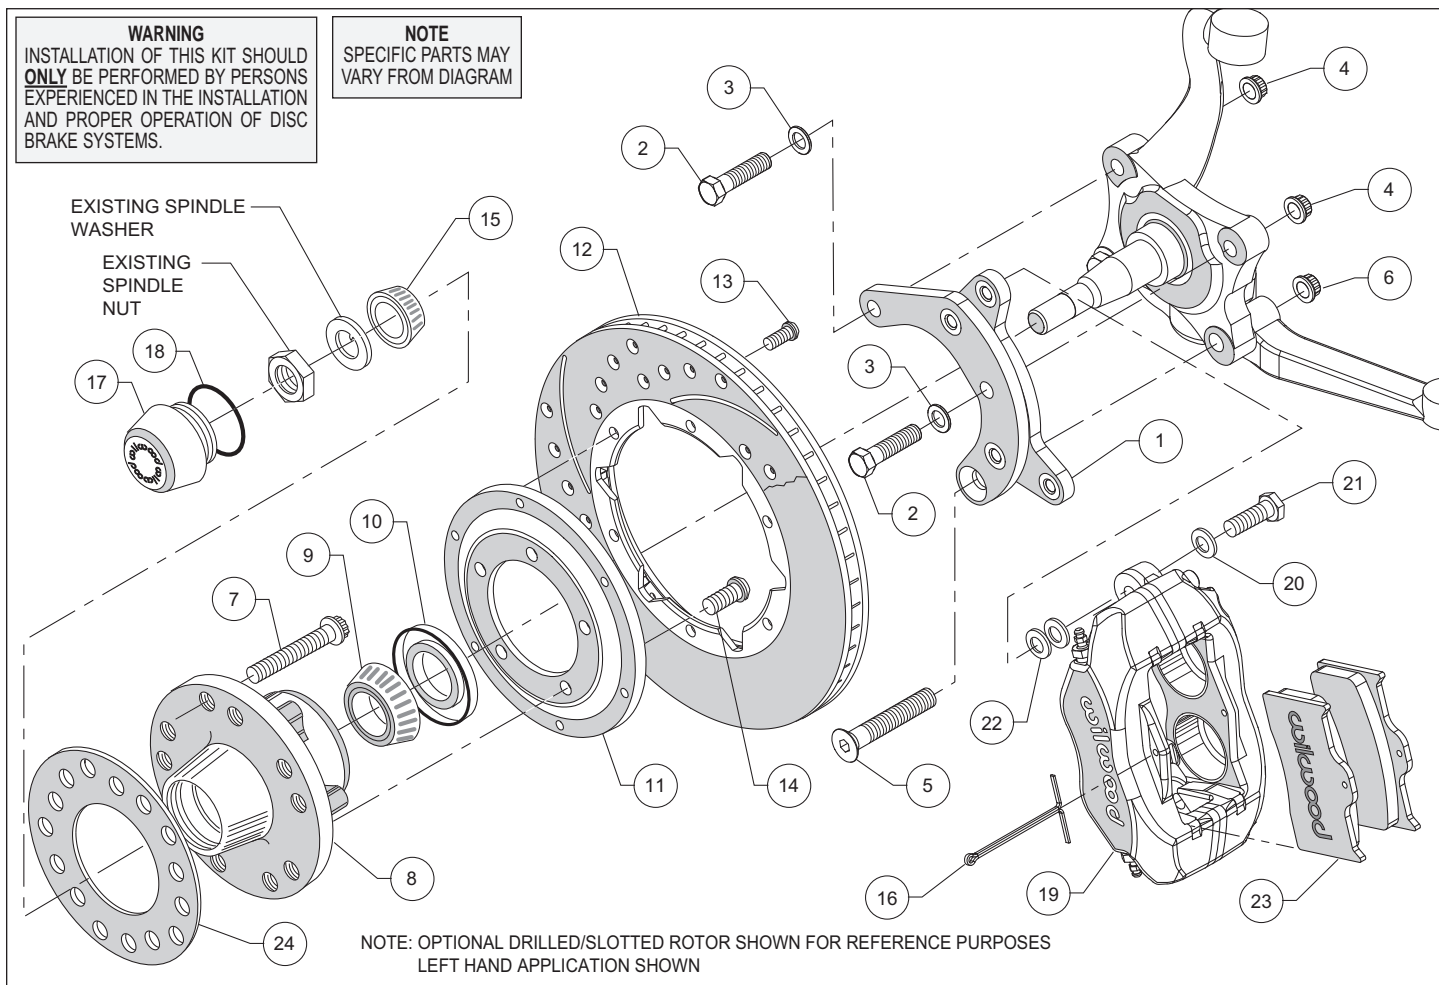
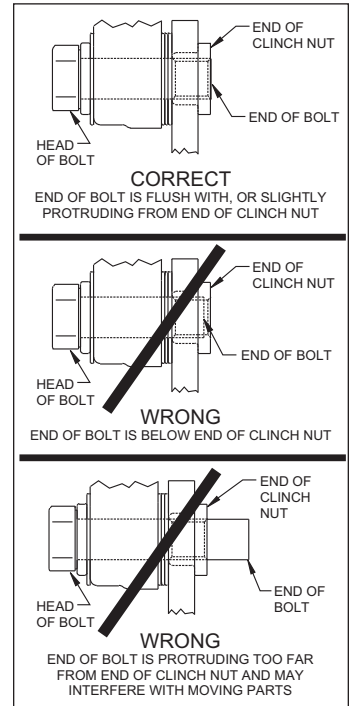

Figure 1. Typical Installation Configuration
Figure 4. Clinch Nut Engagement Diagram
Assembly Instructions (numbers in parenthesis refer to the parts list, on the preceding page and Figure 1): **CAUTION:** All mounting bolts must fully engage clinch nuts. Be sure to check that all bolts are either flush or protruding through flanged side of clinch nut after shimming, Figure 4.
- Align bracket with the corresponding holes on the face of the spindle, attach using bolts (2/5), washer (3), and secure using nuts (4/6) as shown in Figure 1 and Photo 1. Temporarily tighten the mounting bolts. Ensure that the flanged heads of the clinch nuts in the bracket are facing outboard, Photo 1. **NOTE:** The bracket must fit squarely against the mounting points on the spindle. Inspect for interference from casting irregularities, machining ridges, burrs, etc. Torque lock nut (4) to 47 ft-lbs and lock nut (6) to 65 ft-lbs.
- Install the grease seal (10) by pressing into the backside of the hub (8), flush with the end of the hub, Photo 3.
- Orient the rotor (12) and the rotor adapter (11) as shown in Figure 1 and Photo 4. Attach the rotor to the adapter using bolts (13). Using an alternating sequence, apply red *Loctite*® 271 to the threads, and torque to 25 ft-lb.
- Mount the adapter/rotor assembly (11/12) to the hub (8) using bolts (14), as shown in Figure 1 and Photo 5. Using an alternating sequence, apply red *Loctite*® 271 to the threads, and torque to 55 ft-lb.
- Pack the small outer bearing cone (15) with high temperature disc brake bearing grease and install into hub (8). Slide the hub/rotor assembly onto the spindle. Secure using OEM spindle washer and OEM spindle nut, Photo 6. Adjust bearings per OEM specifications. Install saved OEM nut lock (if any) and a new cotter pin (not supplied).
- Screw dust cap (17) into hub (8), Photo 7. Friction created by the o-ring (18) on the dust cap keeps it from unscrewing. **NOTE:** The O.D. of the existing OEM spindle washer may be larger than the I.D. of the dust cap not allowing it to seat against the hub face. Therefore, use the spindle washer (16) supplied with the kit instead of the OEM washer.
- NOTE:** Please reference the caution statement at the beginning of the assembly instructions. Mount the caliper (19) onto the caliper mounting bracket (1) using bolts (21) and washers (20), as shown in Figure 1. Initially place two .035" thick shims (22) on each bolt between the caliper and the bracket, Photo 8. Temporarily tighten the mounting bolts and view the rotor (12) through the top opening of the caliper. The rotor should be centered in the caliper, Photo 9. If not, adjust by adding or subtracting shims between the bracket and the caliper. Always use the same amount of shims on each of the two mounting bolts. **NOTE:** The end of each bolt must be flush with or slightly protruding from the head of the clinch nut, as shown in Figure 4. If necessary place spare shims between washer (20) and caliper mounting ear to achieve the proper clinch nut engagement. Once the caliper alignment and clinch nut engagement are correct, remove the bolts one at a time, apply red *Loctite*® 271 to bolt threads, and torque to 40 ft-lb.
- Install the disc brake pads (23) into the caliper, with the friction material facing the rotor (12), and secure in place using cotter pin (16), Photo 10.